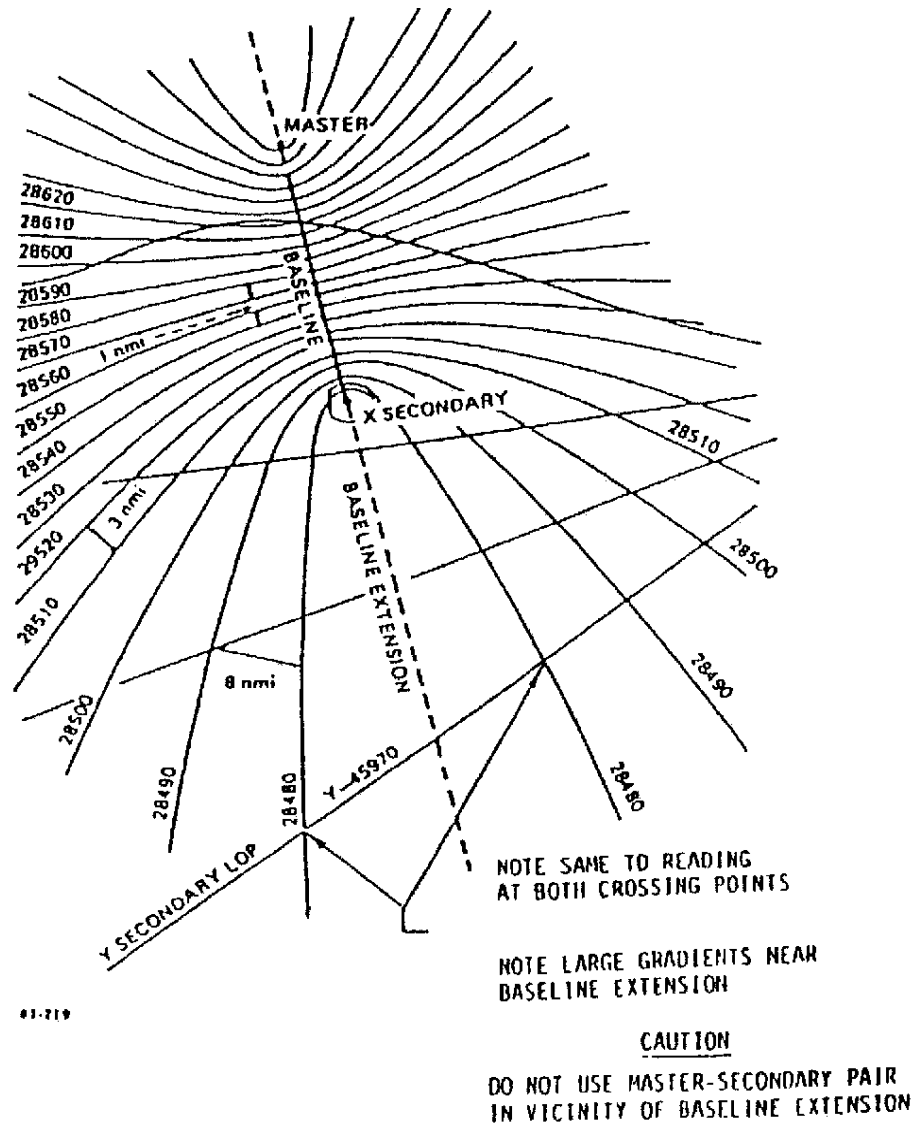

Figure 3. Baseline Extension
Choose the secondary LOP's so that the gradient, or time difference separation, Figure 3, between the LOP's represents the smallest distance per microsecond. In certain locations, a gradient of 10 microseconds between the LOP's on the chart may represent one mile distance, where as, a gradient of 10 microseconds between the LOP's of another secondary may represent five miles distance, or more, depending on the location and the distance from the Master-Secondary pair.
1.6 BASELINE EXTENSION See Figure 3